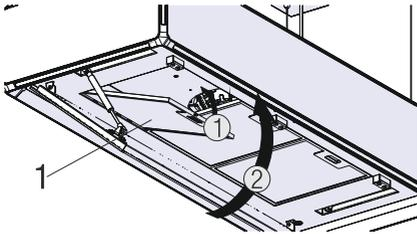

Fig. 37: Placing the metal oil filters
11. ➤ Place the metal oil filter in the product and open the filter lock (Fig. 37/1)
12. ➤ Install the metal oil filter ( Fig. 37/2)
13. ➤ Close the side aspirator (Fig. 37/3).